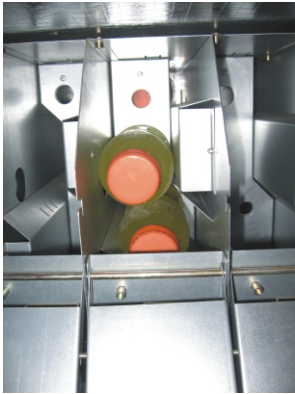

Figure 18 Fill back section first with cans or bottles in any direction
- c. Fill the “back” section first to full capacity (Figure 18).